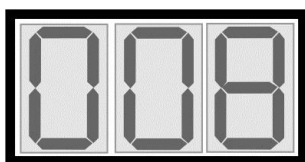

Fig.2
- With the machine at STOP, press the STOP and AUTOMATIC (AUTOMATIC) keys at the same time to access the slush production program with time control and cyclical mixing (Fig. 1). The SLUSH LED switches on to signal that one has accessed the SLUSH mode. The LEDs of the UP (▲), Conferma (Confirm) (◀▶) and DOWN (▼) keys light up and the numbers relative to the time setting to be configured, expressed in minutes and between 1' and 10', appear on the display (Fig. 2). Press the UP (▲) and DOWN (▼) keys to increase or decrease the value. High processing times correspond to higher consistencies, low times correspond to lower consistencies